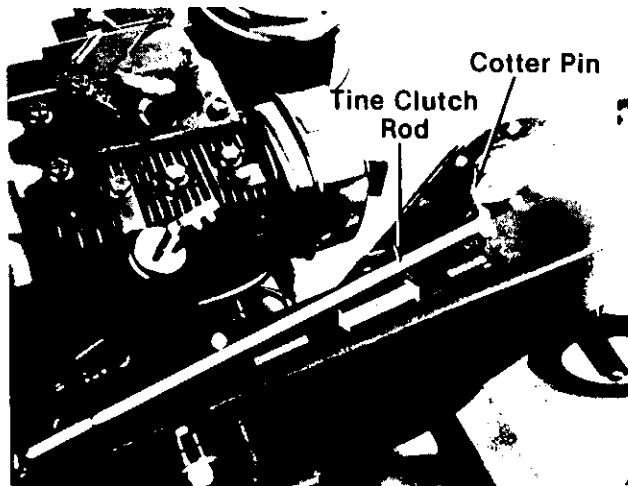

FIGURE 20.
1. Remove the tine clutch rod by removing the cotter pin in the hooked end of rod. See figure 20.